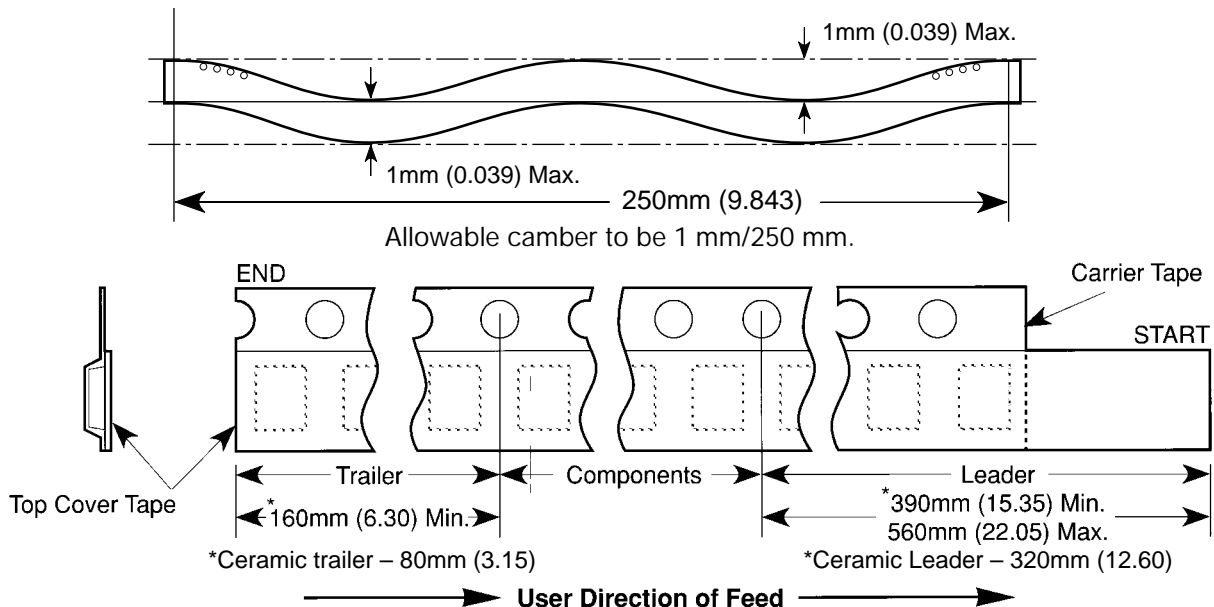

Figure 2: Tape Leader & Trailer Dimensions (Metric Dimensions Will Govern)
- Tape with components shall pass around radius "R" without damage (see sketch A). The minimum trailer length (Fig. 2) may require additional length to provide R min. for 12 mm embossed tape for reels with hub diameters approaching N min. (Table 2)